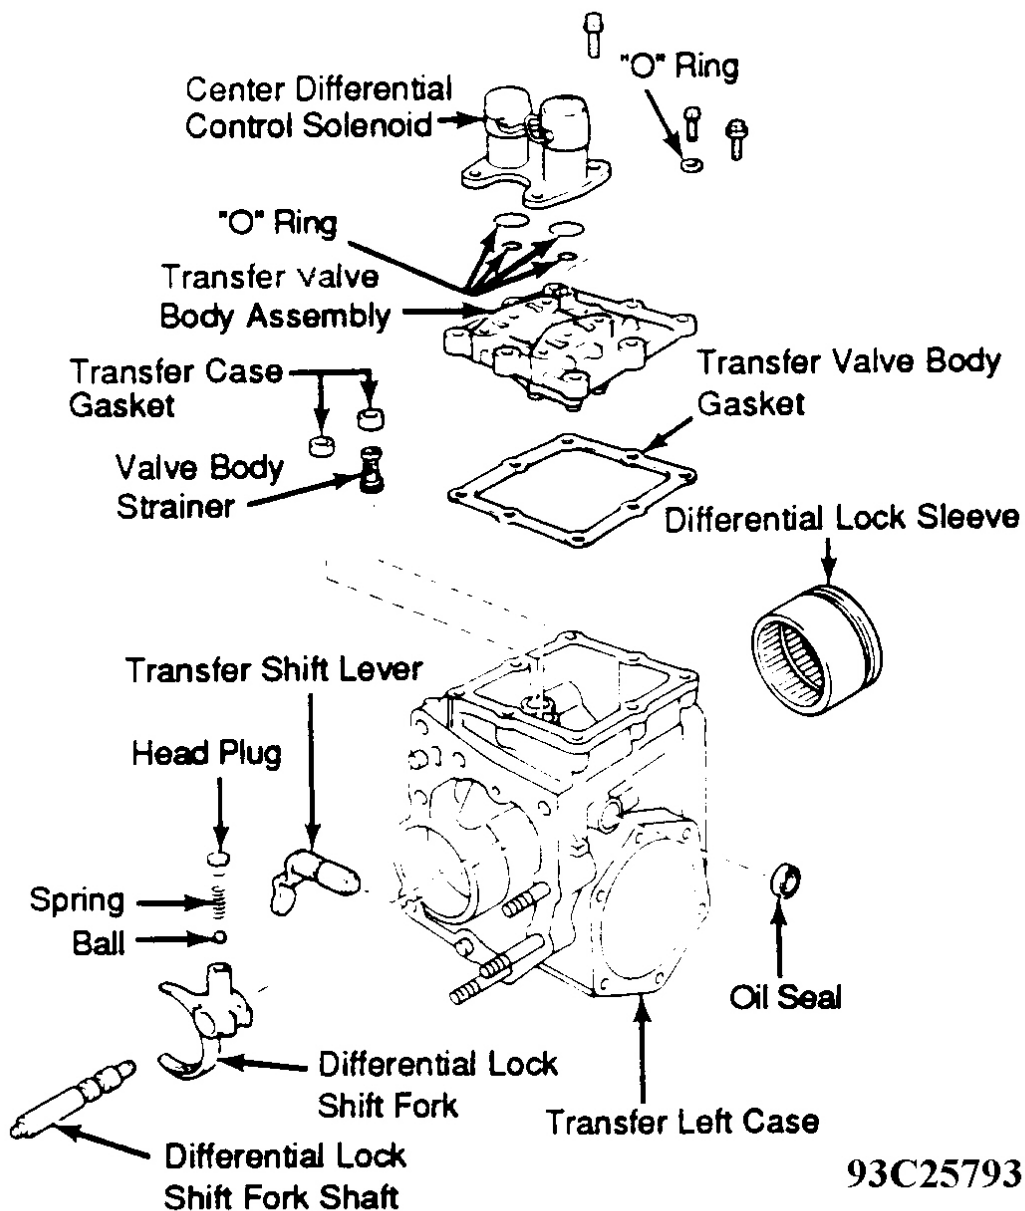

Fig. 59: Exploded View Of Transfer Left Case (A-241H Shown; A-540H Is Similar)
1. Remove center differential control solenoid(s). Remove "O" rings from solenoid(s). See **Fig. 59**.